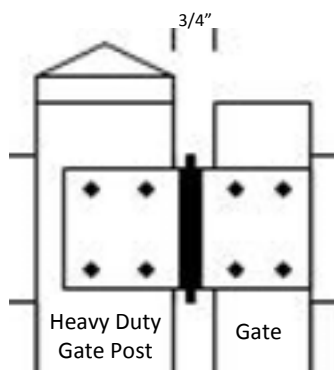

Fig. 12
**Step 2.** If you have elected to utilize 1 heavy duty post per gate opening, be sure to align the "hinges" side of the gate to attach to this post (Fig. 12). If you have elected to utilize 2 heavy duty posts per gate opening, select your preferred post, and align the "hinges" side of the gate to attach to the post.
**Step 4.** Using the eight 8-3/4" screws provided (for each hinge), attach both hinges as marked, and firmly fasten into place (Fig. 12).